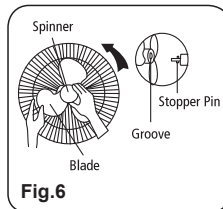

Fig.6
2. Insert the blade into shaft, and make sure the rotor shaft pin is fitted into groove of the blade. Turn the spinner counter clockwise to tighten the blade. (Figure 6)